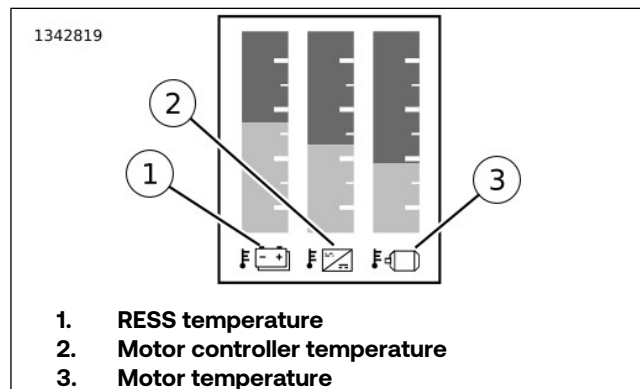

Figure 42. Temperature Widget
See Figure 42. The temperature widget displays RESS temperature (1), motor controller temperature (2) and motor temperature (3).